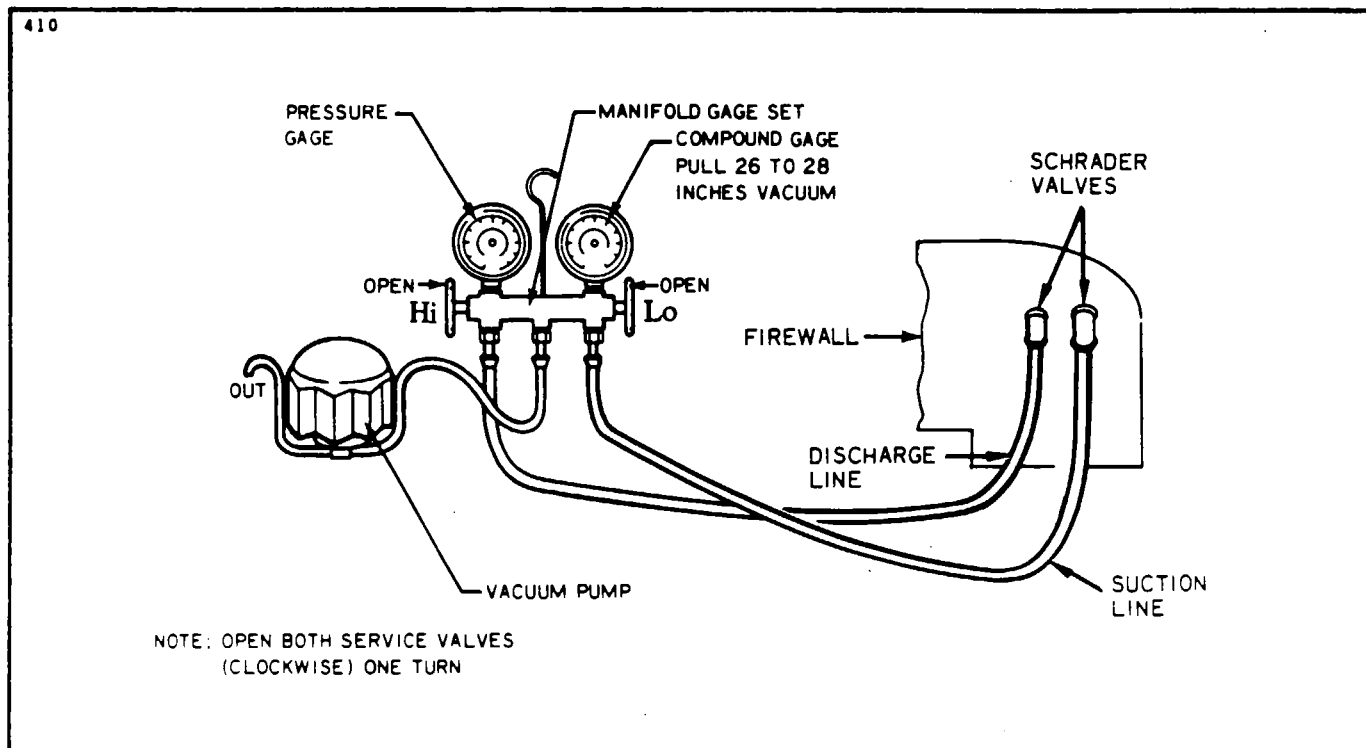

Figure 14-36. Evacuation Hookup
- b. Connect the manifold gauge set to the Schrader valves on the fire wall. (Refer to Figure 14-36.)